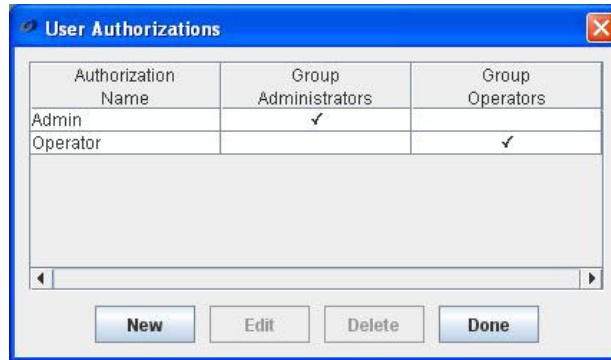

Figure 10. User Authorizations Screen
- To configure user permissions, log on as an authorized user with Admin rights and select *Edit>User Authorizations* to call up the screen shown in Figure 10.